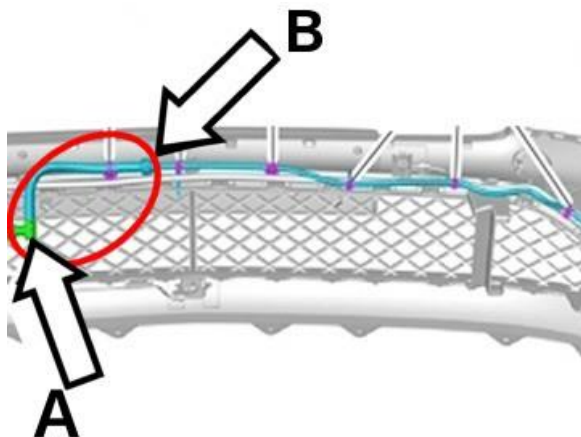

Figure 1
Referring to Figure 1 - In the event the afore mentioned symptom is evident the operative should refer to the Measure section of this TPI to replace the night vision washer jet (short link hose - Circled) which connects the night vision camera washer jet (A) to the washer jet supply hose connector (B)